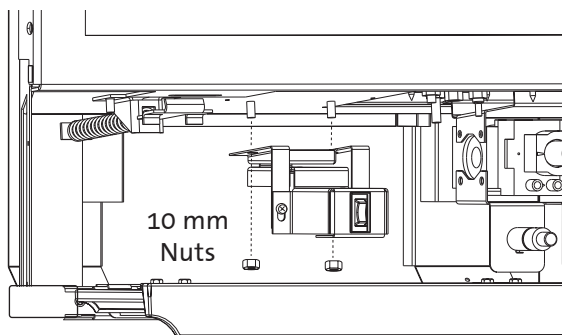

Figure 22. Install Control Switch.
3. Using the M6 nuts and 10 mm socket, attach the Control Switch / Snapstat Bracket to the two studs protruding from the firebox floor. See Fig. 22. Be sure that the snapstat disc firmly contacts the bracket surface.